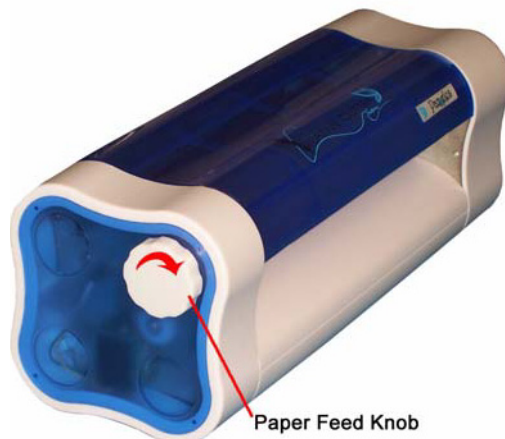

Figure 19
- 6** Turn the paper feed knob located on the left side of the cutter foward to move the mat under the pinch rod. See figure 19 .